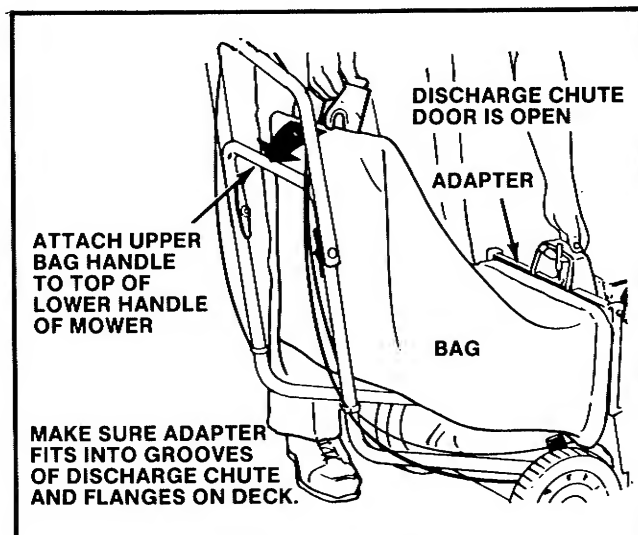

FIGURE 7
5. Hook the bag handle over the crossbar of the mower's lower handle. (Figure 7.)